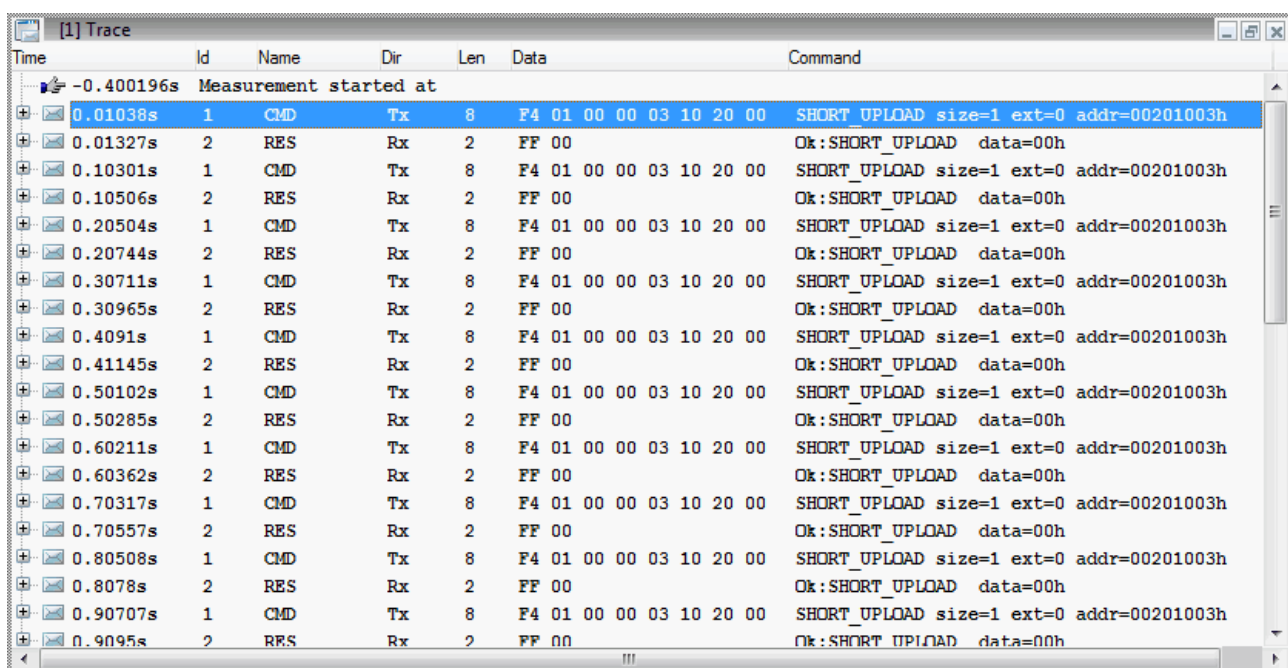

Figure 3-4: Communication sequence for the **polling** measurement mode
**Polling** is the simplest measurement mode of the XCP protocol. In this mode, the XCP master uses an XCP command (SHORT\_UPLOAD) to poll the measurement values in a uniform time base. The measurement data are not equidistant in this mode. If there is a high bus load, the measurement parameter may be transferred with a time lag. Figure 3-4 shows the communication sequence for the polling measurement mode.